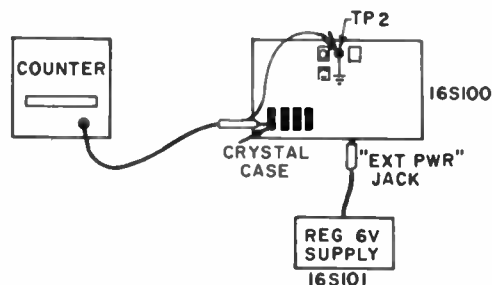

Figure 2—Test setup for crystal frequency measurement
4. Connect the test equipment as shown in Fig. 2.